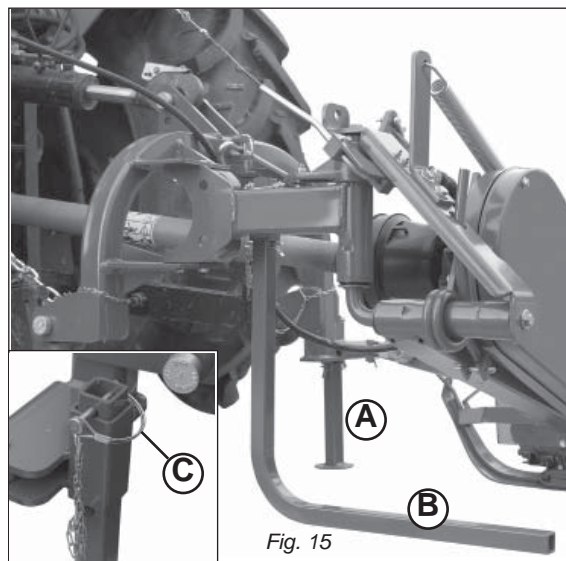

Fig. 15
The sickle bar must be set-up on flat and compact ground, supported by the relative supports (A and B, Fig. 15).
2. Put parking stand (A and B, Fig. 15) in the DOWN position: install spring locking pin (C, Fig. 15).
- 17) Before operating the mowing machine, check that the support struts (A and B, Fig. 15 page 15) have been removed from underneath the implement. Make sure that the sickle bar has been correctly mounted and adjusted. Check that the machine is in perfect order and that all components subject to wear and deterioration are efficient.